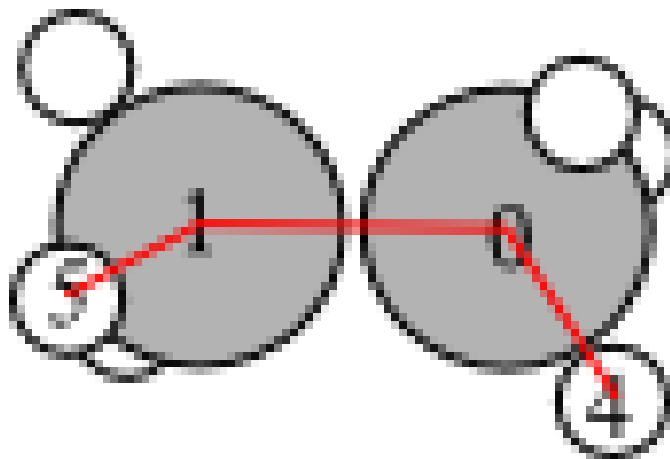

Figure 9: Schematic of the calculated ethane dihedral angle.
**Dihedral angles** There is support in ase for computing dihedral angles. Lets illustrate that for ethane. We will compute the dihedral angle between atoms 5, 1, 0, and 4. That is a H-C-C-H dihedral angle, and one can visually see (although not here) that these atoms have dihedral angle of 60°. See Figure 9.